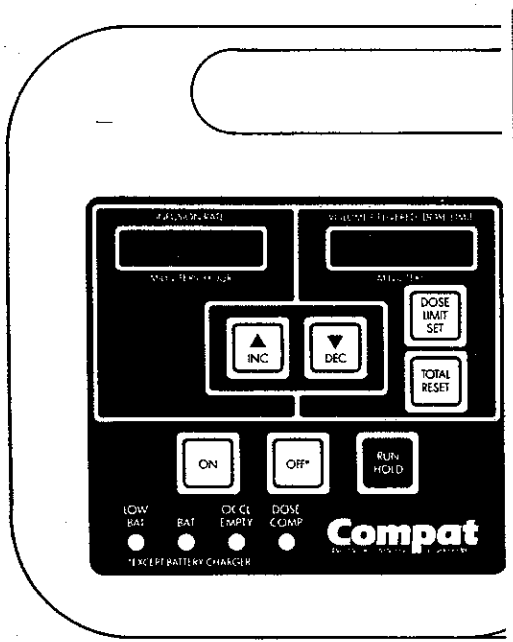

Figure 2-2 Activate Pump; Set Flow Rate.
2. Press ON - alarm will sound briefly. Remember, the pump has memory and will automatically recall the previous parameter settings. (Figure 2-2)
3. Check Infusion Rate. If change is desired, press INC or DEC to change rate setting. (Figure 2-2)